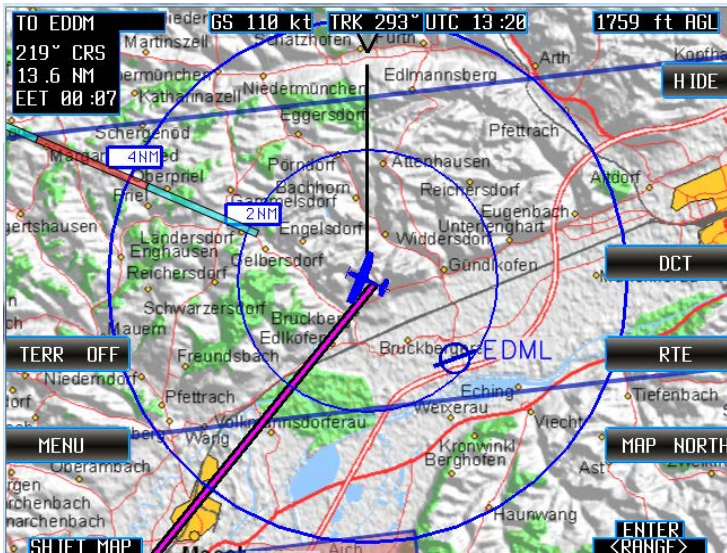

Figure 39: Direct-to "DCT", a Direct-to waypoint is set
- The remaining flight time to this waypoint (Figure 39).